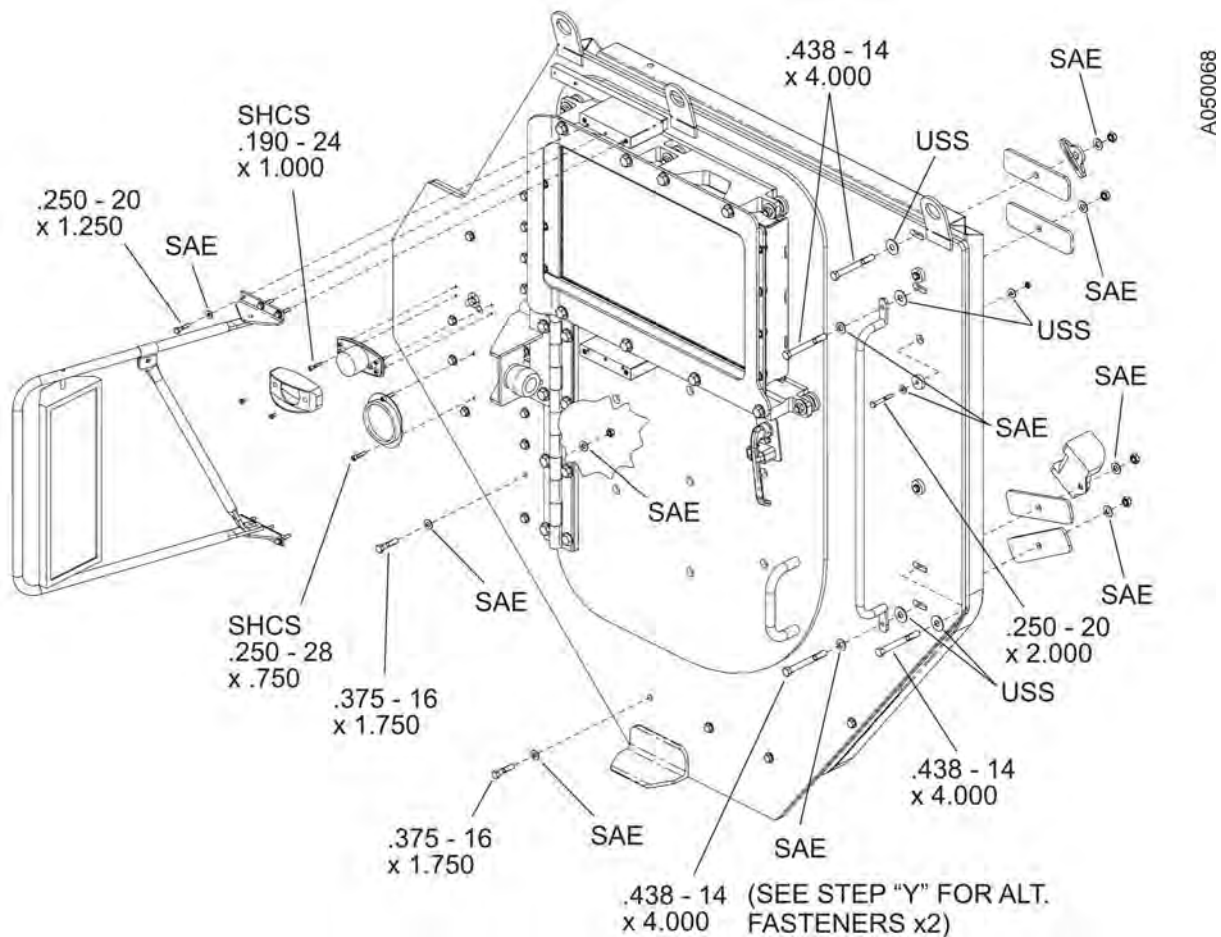

Figure 37. Side Armor Panel Assembly Attachment.
- m. Install the existing clearance light gasket onto the amber clearance light, feed the clearance light wire through the appropriate hole in the Side Armor Panel. Secure the amber clearance light onto the armor panel using four bolts (3/16 - 24 x 1.000 LG) and four washers (1/4 ID) (see Figure 37).
- x. Secure the rear edge of the Side Armor Panel by inserting three bolts (1/4 – 20 UNC x 2.000 LG) and three armor washers (P/N 111403-3), and three washers (1/4 ID, SAE) into the drilled holes and securing them with three washers (1/4 – 1.000 OD, USS) and locknuts (1/4 – 20) inside the cab (see Figure 37).
- y. Reposition the Cab Entry Hand Hold on the second hole from the top of the rear edge of the Side Armor Panel and secure the Hand Hold in place by threading two bolts (7/16 – 14 x 4.000 LG), and two flat washers (7/16 ID) through the hand hold holes and the cab holes and securing them with two Aft Plates (P/N 113316), two flat washers (7/16 ID), and two locknuts (7/16 – 14) on the inside of the cab (see Figure 37). (Optional: If the vehicles uses a two-point seat belt, use two bolts (7/16 – 14 x 4.500), two washers (7/16 ID), and two locknuts (7/16 – 1/4) to fill the holes where the shoulder strap mounts would be located, and use two alternate bolts (3/8 – 16 x 4.750 LG) for the Cab Entry Hand Hold. These bolts are in the extra fastener kit, P/N 111444.
- aa. Attach the Side-View Mirror to the blocks using three bolts (0.250 – 20 x 1.250 LG) and washers (0.250 ID) at the top and three bolts (0.250 – 20 x 1.250 LG) and washers (0.250 ID) at the bottom (see Figure 37).